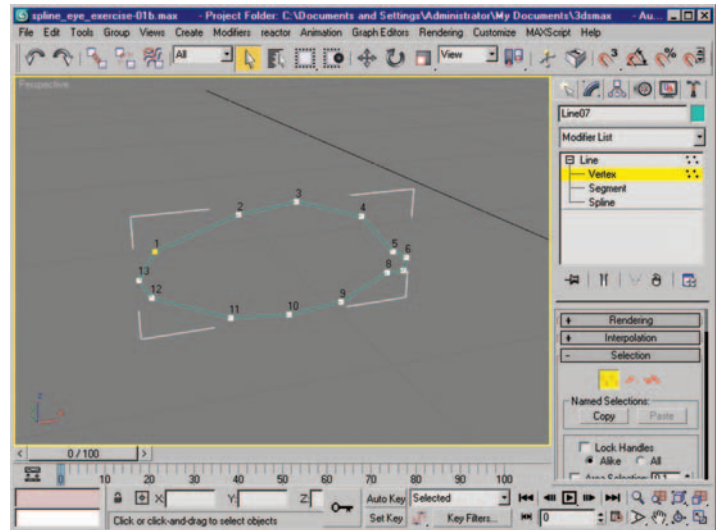

Figure 2.10 Initial spline consisting of 13 points.
2. In the front viewport, start clicking point by point to create the basic outline in the shape of a human eye opening. When you have made a full loop by returning to the initial point a pop-up dialog will ask if you wish to "Close spline?" Select Yes (Figure 2.10).
consistent splines with uniform vertex counts. Figure 2.10 shows the initial spline from step 2 with the vertex numbers displayed.